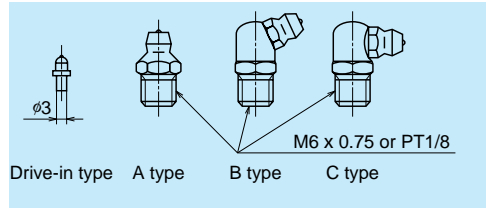

Fig. II-4-1 Shapes of grease fitting
- Fig. II-4-1 and II-4-2 show linear guide grease fittings and tube fittings.